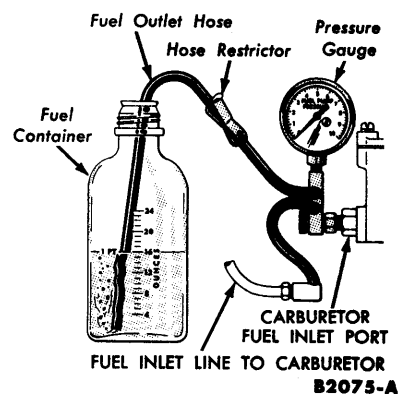

FIG. 2—Fuel Pump Pressure and Capacity Tests
2. Connect a pressure gauge, petcock and flexible hose (Fig. 2) between the carburetor inlet connector and the fuel inlet line connector.
3. Position the flexible hose in the petcock so that the fuel can be expelled into a suitable container (Fig. 2) for the capacity (volume) test.
2. Open the hose restrictor and expel the fuel into the container (Fig. 2) while observing the time required to expel one pint; then, close the petcock. At least one pint of fuel should be expelled within the specified time limit.